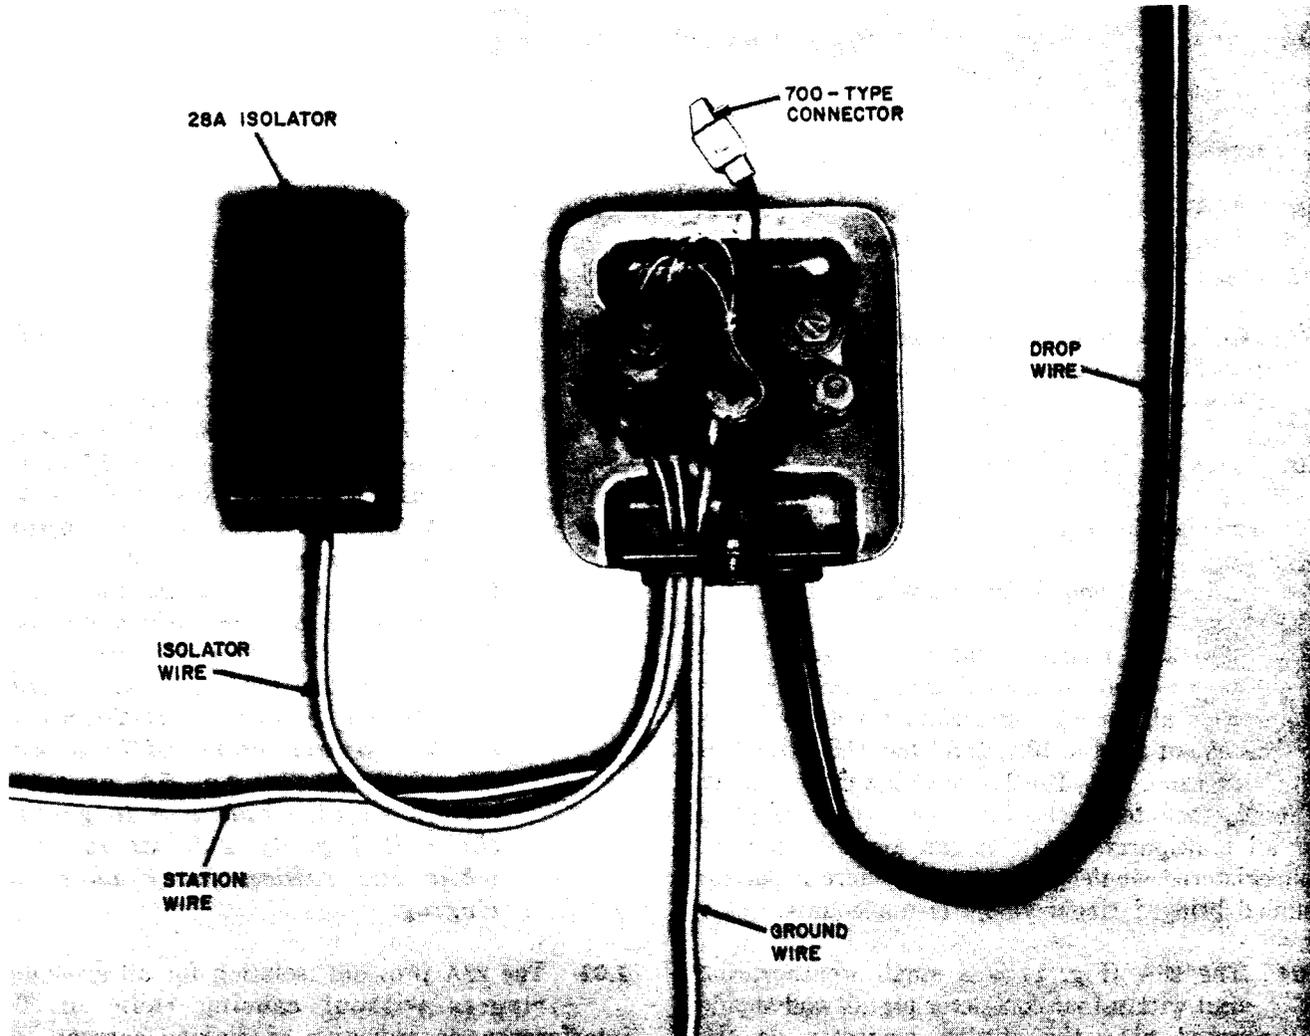

Fig. 1—28A Ringer Isolator, Typical Installation
1.04 The 28A (Fig. 1) is a small weatherproof unit with a four conductor pigtail and should be mounted near the station protector on the premises of the subscriber. One isolator is required at the protector for each customer line containing grounded ringer(s) (Fig. 1).
3.01 Install the 28A near the station protector using the stainless steel mounting screws furnished with the isolator. The four conductor pigtail lead should come out of the bottom of the isolator and connect to the protector and inside wire (Fig. 1).